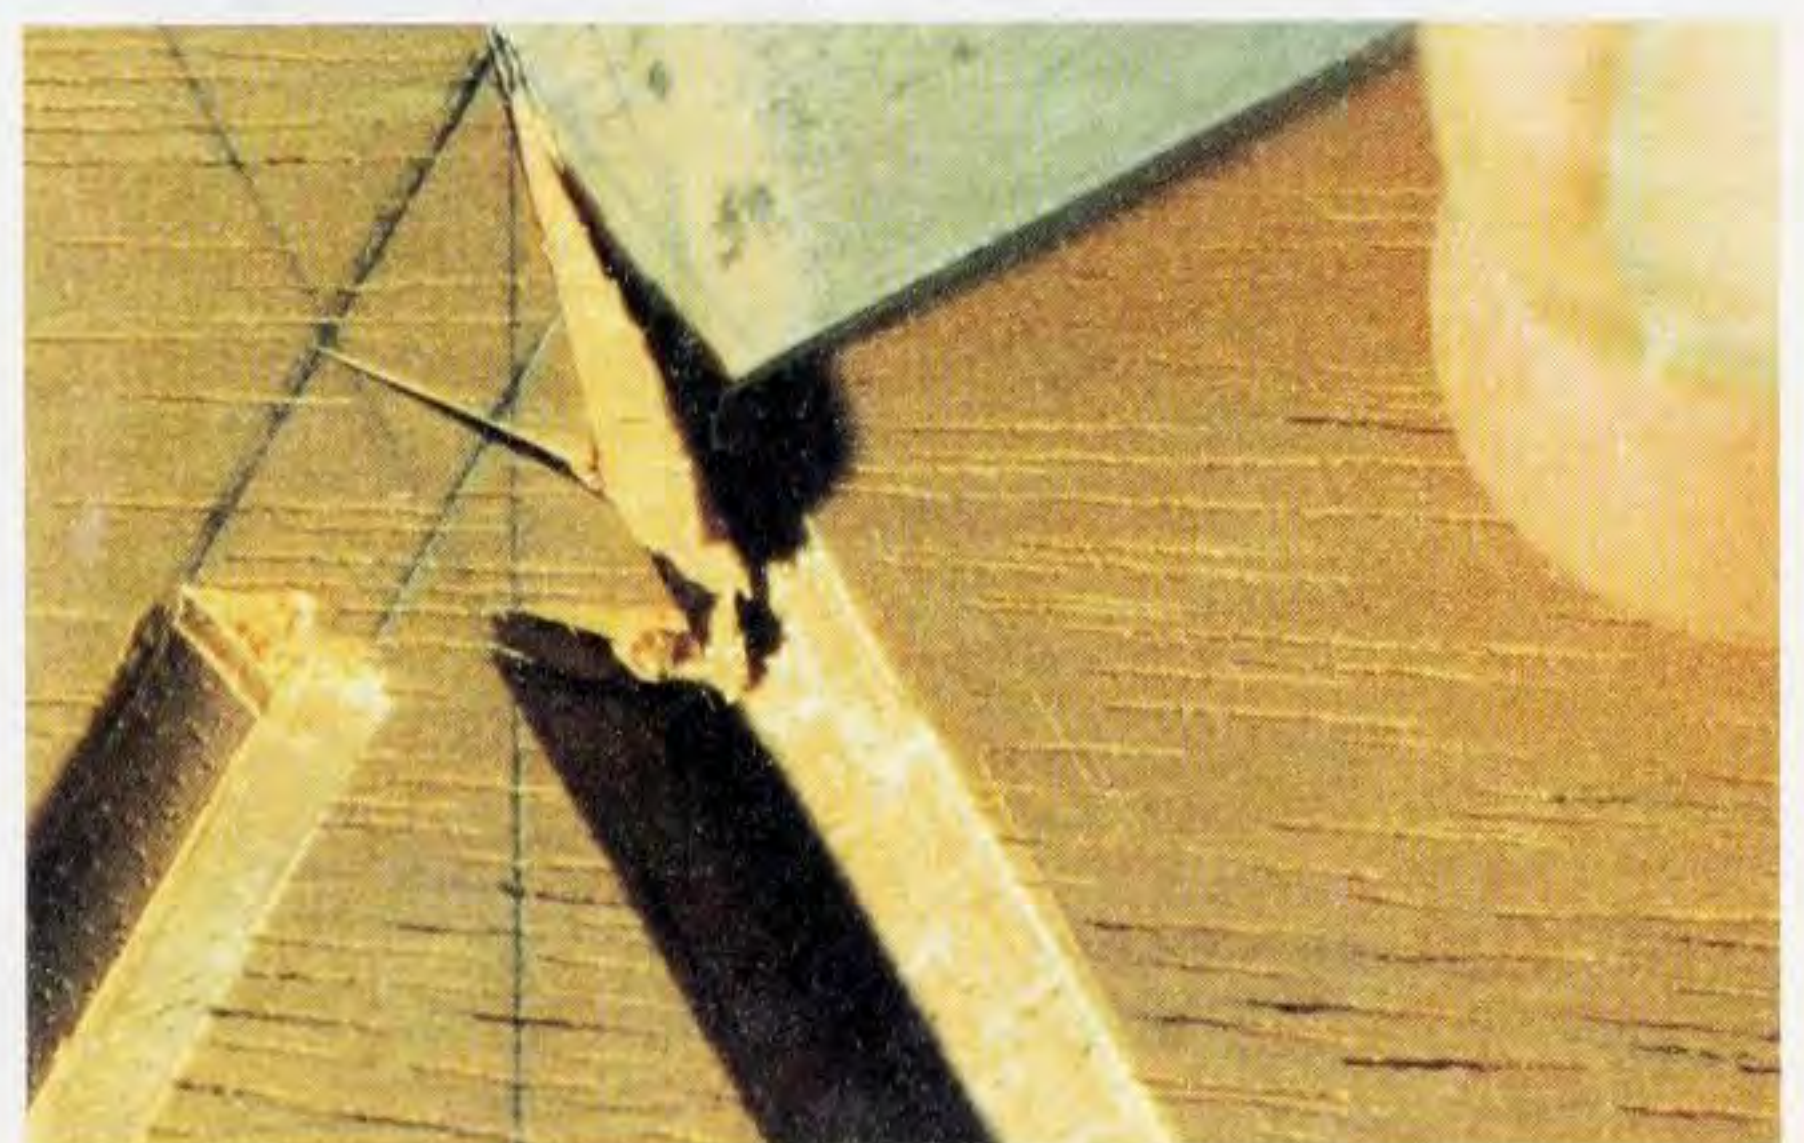

Fig 5.53 Then make the first angled cut from root to apex.
- 6 Carefully cut the outside wall on the right oblique trench first, from root to apex (see Fig 5.53).